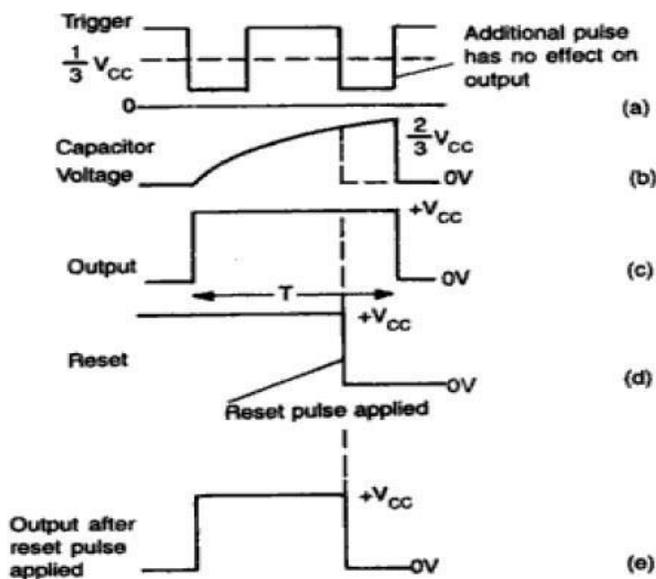

Fig. 8.5 Timing pulses
- Since C is unclamped, voltage across it rises exponentially through R towards  $V_{cc}$  with a time constant RC as in Figure 8.5 b.
However, if a negative going reset pulse as in Figure 8.5 d is applied to the reset terminal during the timing cycle, transistor Q2 goes off, Q1 becomes on and the external timing capacitor C is immediately discharged. The output now will be as in Figure 8.5 e.